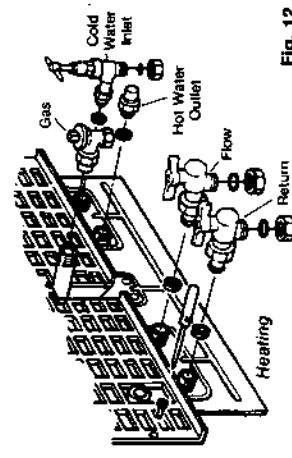

Fig. 12
- 5.3.4 Loosely fit (hand tight) the valves and fittings using the washers supplied (Fig 12)